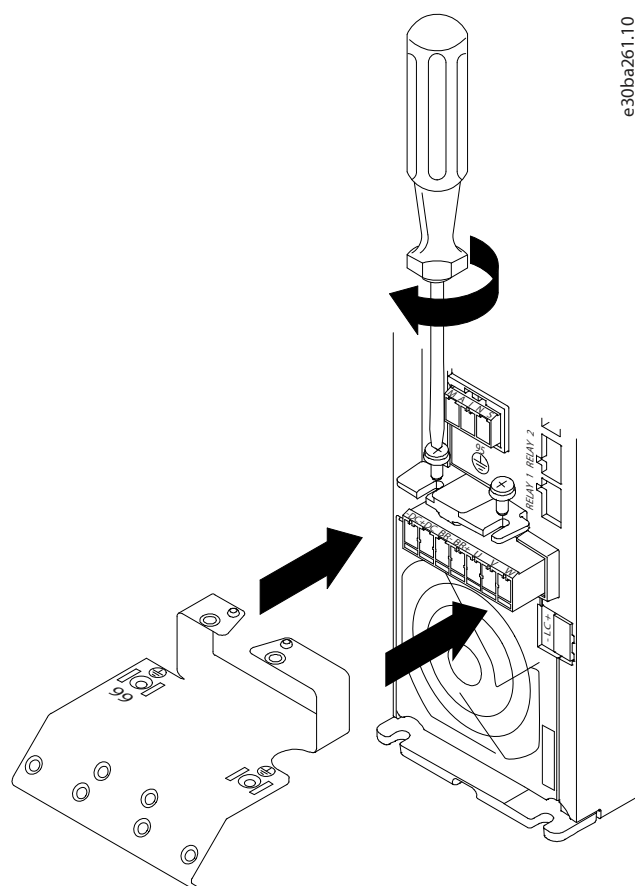

Figure 56: Mounting the Mounting Plate
1. Slide the mounting plate into place and tighten the 2 screws as shown in Figure 56.